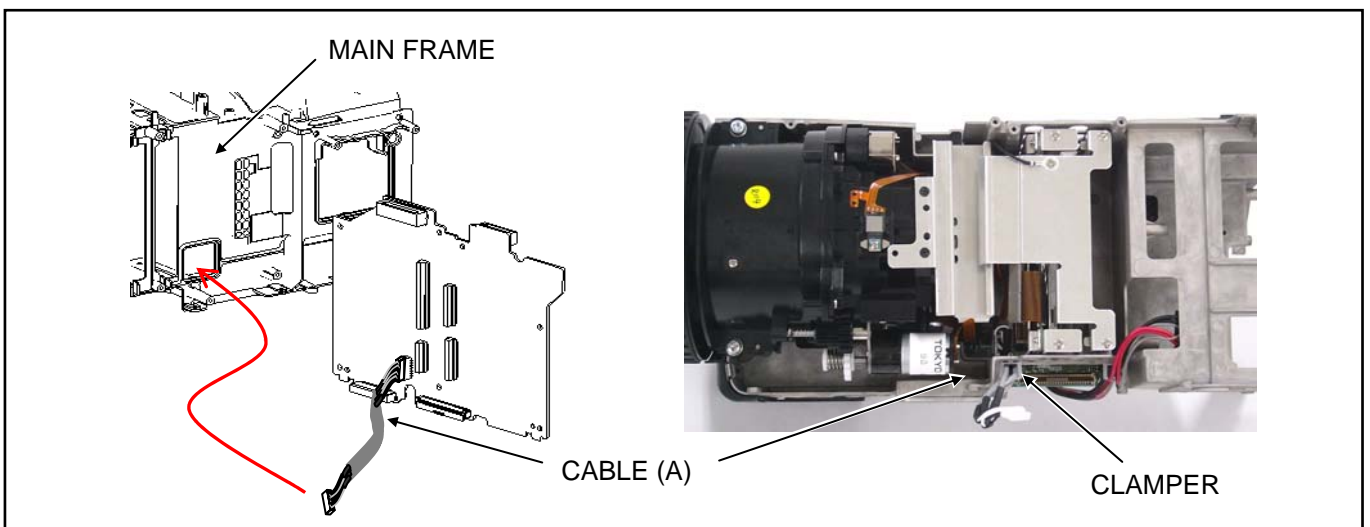

Figure 17-4
Pass the cable (A) through hole of main frame and fix by the clumper as shown in figure 17-4, when you assemble the DIGITAL MAIN P.C.B..